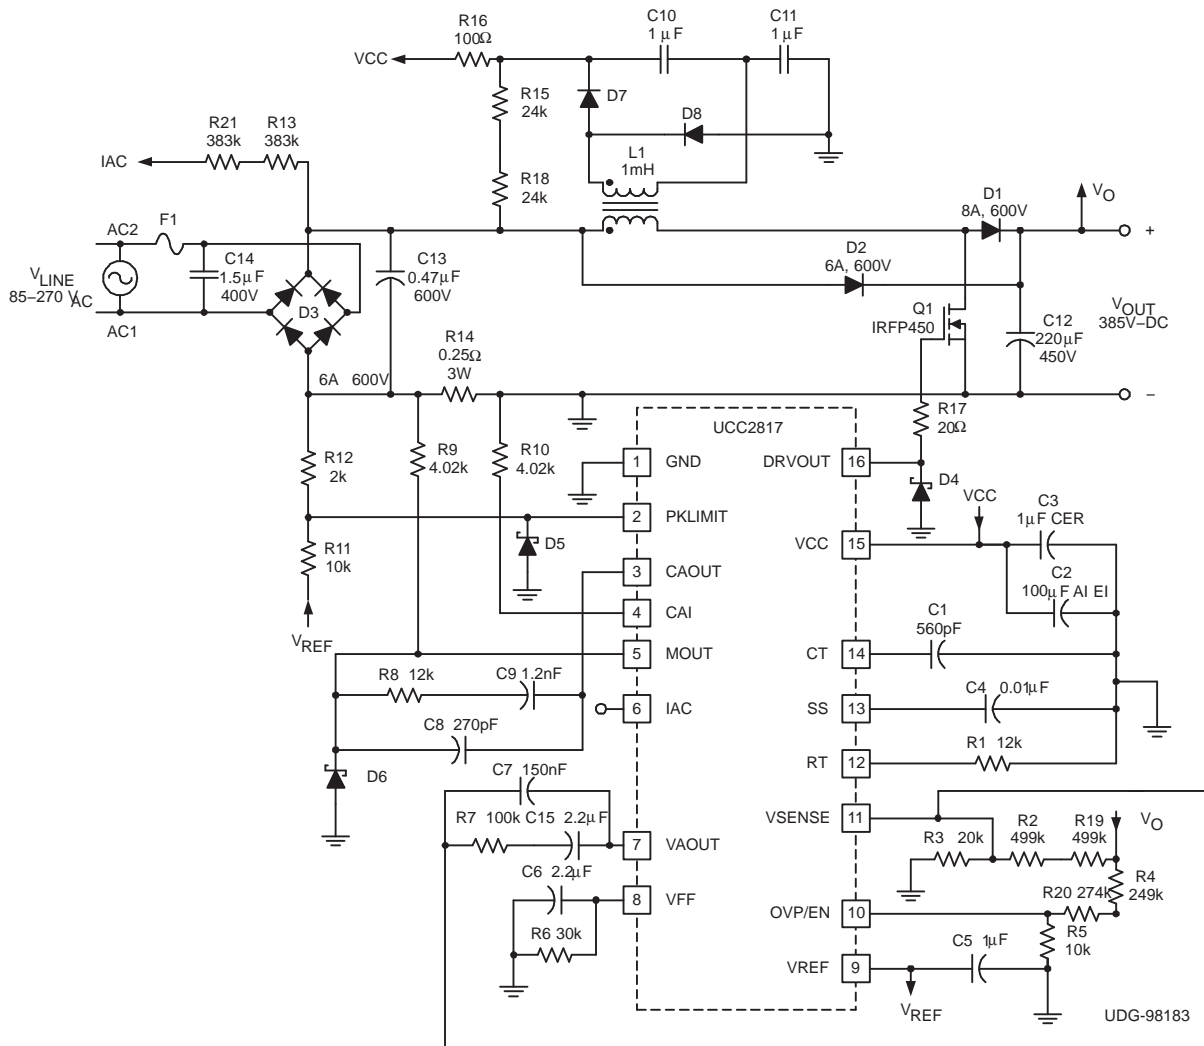

Figure 1. Typical Application Circuit
The UCC2817 is a BiCMOS average current mode boost controller for high-power-factor, high-efficiency, preregulator power supplies. **Figure 1** shows the UCC2817 in a 250-W PFC preregulator circuit. Off-line switching power converters normally have an input current that is not sinusoidal. The input current waveform has a high harmonic content because current is drawn in pulses at the peaks of the input voltage waveform. An active power-factor correction circuit programs the input current to follow the line voltage, forcing the converter to look like a resistive load to the line. A resistive load has 0° phase displacement between the current and voltage waveforms. Power factor (PF) can be defined in terms of the phase angle between two sinusoidal waveforms of the same frequency:
The UCC2818 version of the device is intended to have V_{CC} connected to a 12-V supply voltage. The UCC2817 has an internal shunt regulator enabling the device to be powered from bootstrap circuitry, as shown in the typical application circuit of Figure 1. The current drawn by the UCC2817 during undervoltage lockout, or start-up current, is typically 150 μA. Once V_{CC} is above the UVLO threshold, the device is enabled and draws 4 mA typically. A resistor connected between the rectified ac line voltage and the V_{CC} pin provides current to the shunt regulator during power up. Once the circuit is operational, the bootstrap winding of the inductor provides the V_{CC} voltage. Sizing of the start-up resistor is determined by the start-up time requirement of the system design.